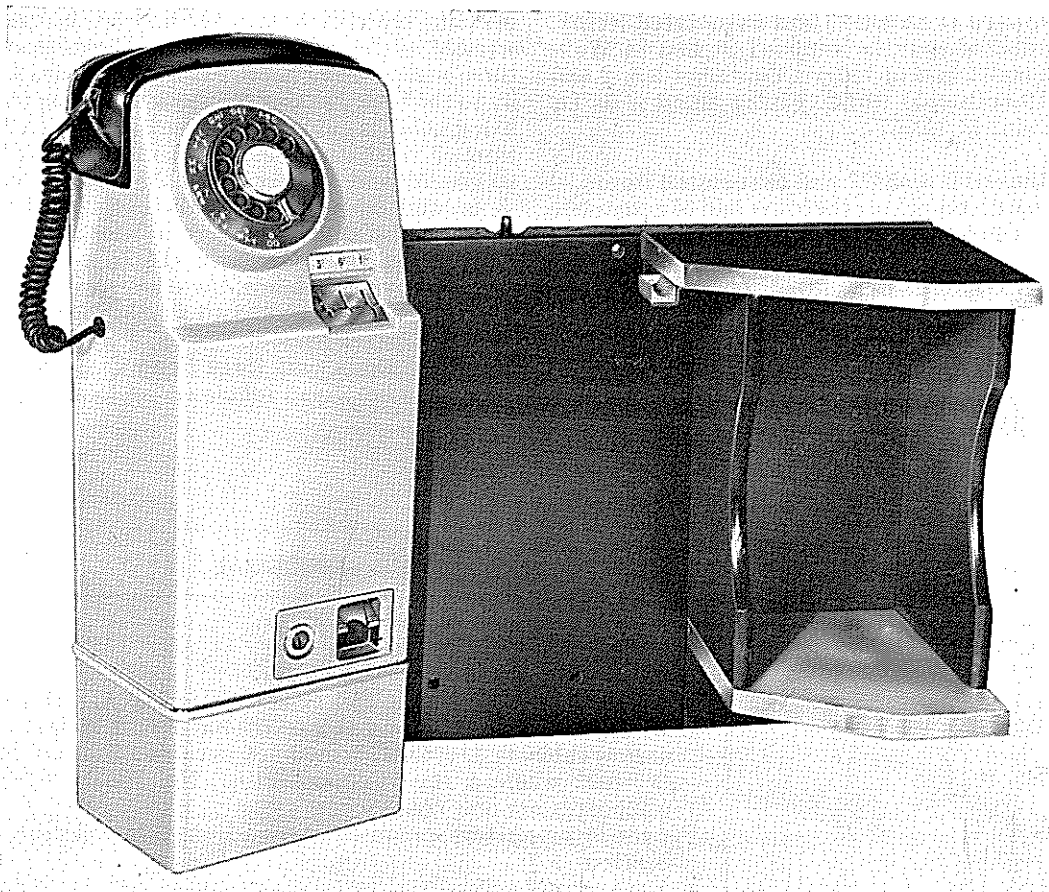

FIG. 1.—WALLBOARD D 2A/60577
2. Types of wallboard.—Table 1 lists the wallboards described in this Instruction and the circumstances in which they are used. Typical wallboards are illustrated in Figs. 1, 2, 3 and 4.